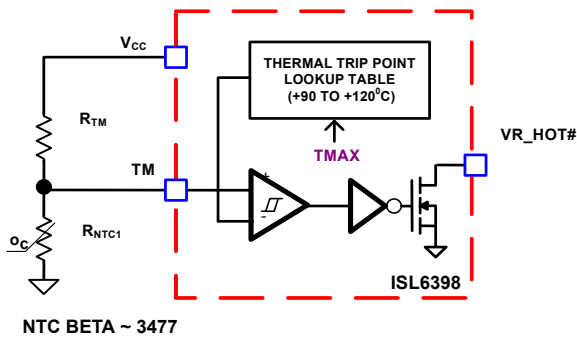
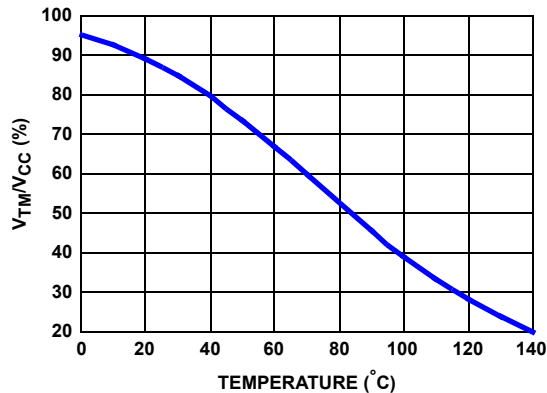

FIGURE 20. BLOCK DIAGRAM OF THERMAL MONITORING FUNCTION
FIGURE 21. THE RATIO OF TM VOLTAGE TO NTC TEMPERATURE WITH RECOMMENDED PARTS
The block diagram of thermal monitoring function is shown in Figure 20. One NTC resistor should be placed close to the respective power stage of the voltage regulator VR to sense the operational temperature, and pull-up resistors are needed to form the voltage dividers for the TM pins. As the temperature of the power stage increases, the resistance of the NTC will reduce, resulting in the reduced voltage at the TM pin. Figure 21 shows the TM voltage over the temperature for a typical design with a recommended 6.8kΩ NTC (P/N: NTHS0805N02N6801 from Vishay, b = 3477) and 1kΩ resistor RTM. It is recommended to use those resistors for the accurate temperature compensation since the internal thermal digital code is developed based upon these two components. If a different value is used, the temperature coefficient must be close to 3477 and RTM must be scaled accordingly. For instance, NTC = 10kΩ (b = 3477), then RTM should be 10kΩ/6.8kΩ\*1kΩ = 1.47kΩ.
There is a comparator with hysteresis to compare the TM pin voltage to the threshold set by the TMAX register (programmable via PMBus E8[2:0]) for VR\_HOT# signal. With TMAX set at +100 °C, the VR\_HOT# signal is pulled to GND when TM voltage is lower than 39.12% of VCC voltage, and is open (pulled high through TM) when TM voltage increases to above 40.98% of VCC voltage. The comparator trip point will be programmable by TMAX values. Figure 21 shows the operation of those signals.
Based on the VCC voltage, the ISL6398 converts the TM pin voltage to a 6-bit TM digital signal for temperature compensation. With the non-linear A/D converter of ISL6398, the TM digital signal is linearly proportional to the NTC temperature. For accurate temperature compensation, the ratio of the TM voltage to the NTC temperature of the practical design should be similar to that in Figure 21.
When a different NTC type or different voltage divider is used for the TM function, the TCOMP voltage can also be used to compensate for the difference between the recommended TM voltage curve in Figure 21 and that of the actual design. If the same type NTC (β = 3477) but different value is used, the pull-up resistor needs to be scaled, as shown in Equation 20:
1. Properly choose the voltage divider for the TM pin to match the TM voltage vs temperature curve with the recommended curve in Figure 21.